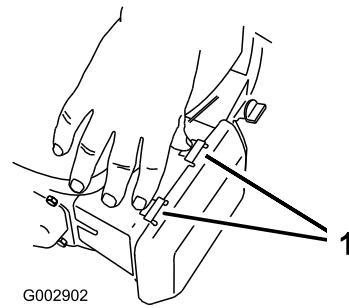

Figure 38
- Press down on the latch tabs on top of the air-cleaner cover (Figure 38).